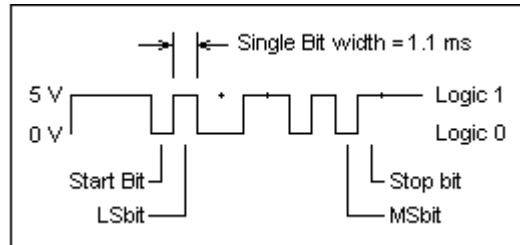

Figure 2
The baud rate (893) in both example programs was determined empirically by connecting an oscilloscope to the output pin on an IR detector and capturing a sample of the signal. The baud rate is determined by measuring the width of a single data bit (see Figure 2). The baud rate is determined by taking the inverse of the 1-bit pulse width (about 1.1 ms in this case).